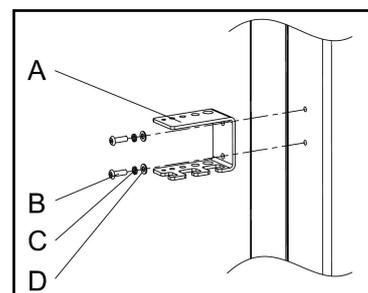

Fig. 7
5.5 Tool Storage Hook (Figure 7.)